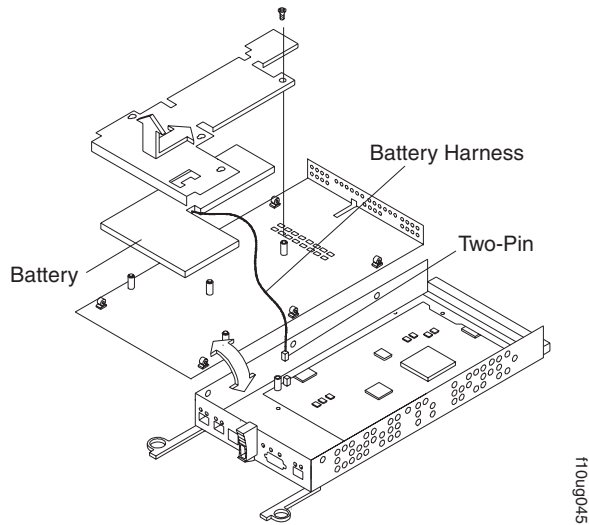

Figure 76. Removing the controller battery
9. Carefully flip over the RAID controller bottom panel. Disconnect the battery harness on the battery from the two-pin connector on the controller board, as shown in Figure 76 on page 100.